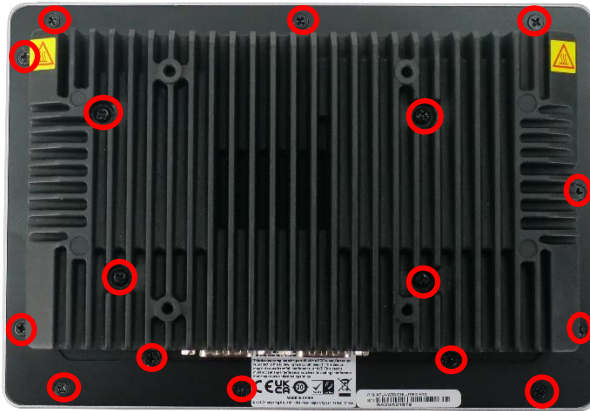

Figure 3-1: Back Cover Retention Screws
Step 1: Remove the back cover. See **Figure 3-1**.